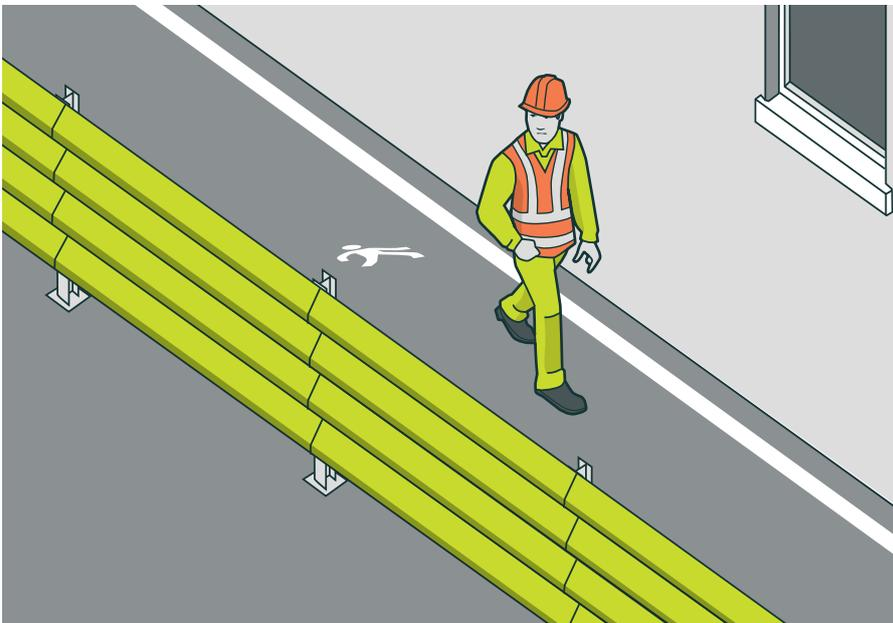

FIGURE 4:
- high impact traffic control barriers (see Figure 4)